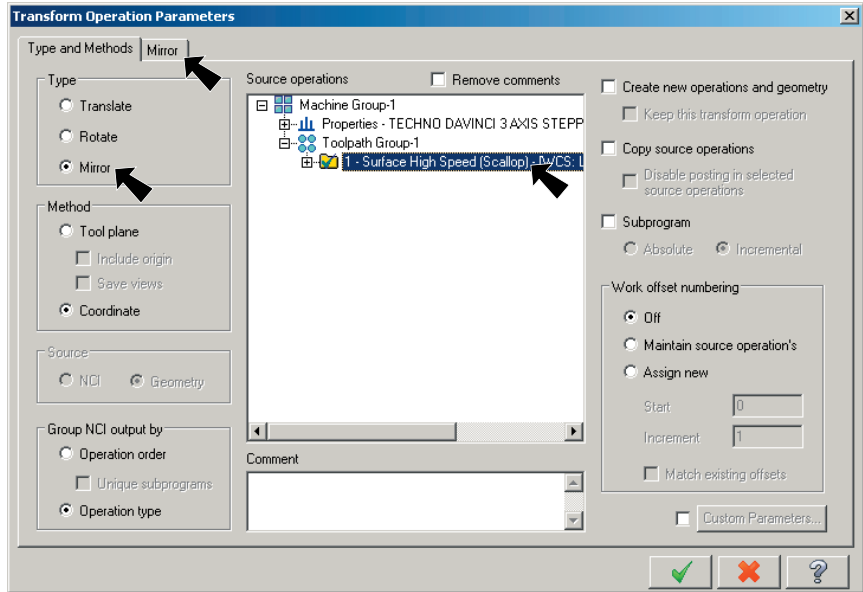

Fig. 23
Mirror, Fig. 23.
Step 3. Under Source operations, select **Surface High Speed (Scallop)**, Fig. 23.
Step 4. Click the **Mirror** tab at the top of the dialog box, Fig. 23.